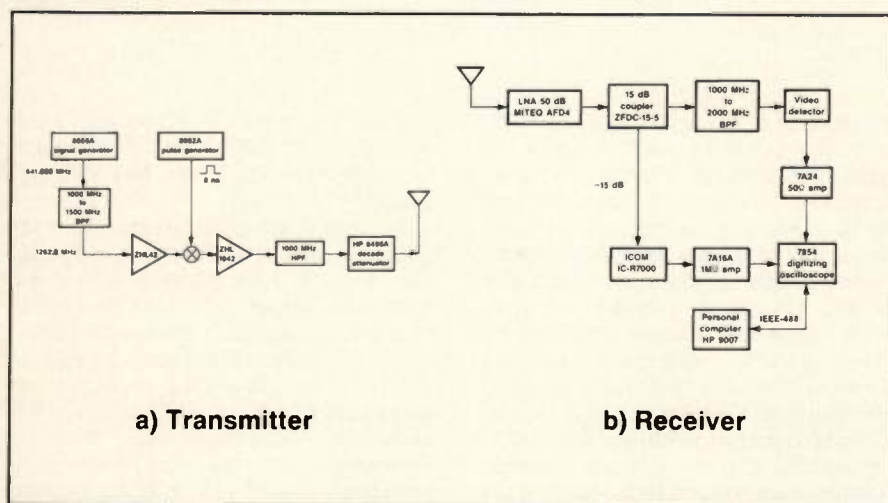

Figure 2. Block diagram of factory multipath measurement system.
scope the attenuated, distorted and delayed versions of the pulse. The measurement apparatus consisted of a periodic pulse-modulated transmitter with a peak output power of 1 W. The receiver consisted of a low noise amplifier followed by a square law envelope detector and a 350 MHz digital storage oscilloscope. A directional coupler allowed CW envelope measurements to be made simultaneously by a modified communications receiver. The measurement system block diagram is shown in Figure 2. Wideband discone antennas (16) were used at both transmitter and receiver.